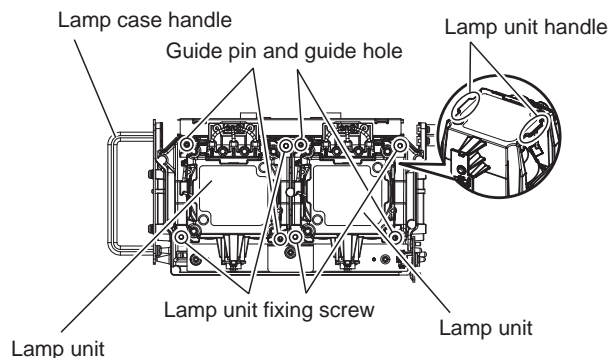

Fig. 4
4) Remove the lamp unit. (Fig. 4)